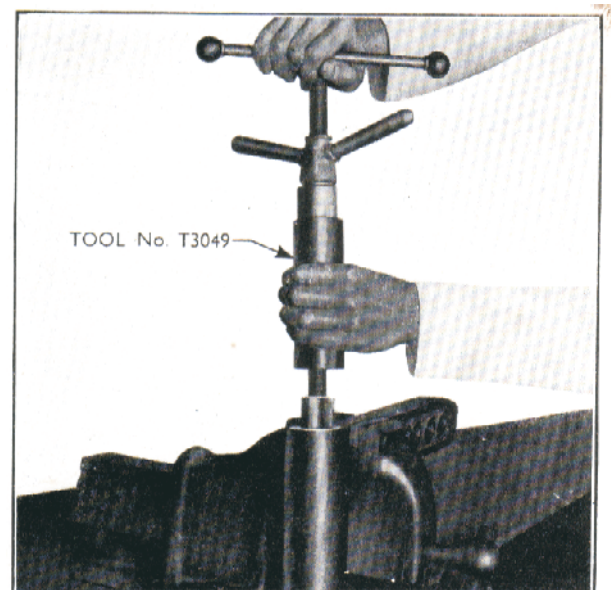

Fig. 5
5. Pull out the bushes using Tool No. T3049 (see Fig. 5).